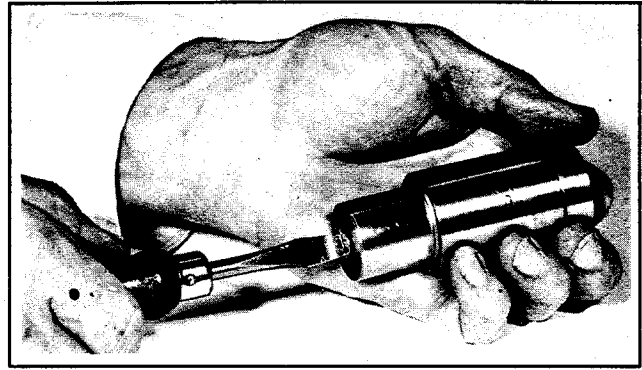

Figure 3E-70. Installing Crank Pin Pilot on Crank Pin (1963-1976)
Install crank pin pilot on opposite (circuit breaker crankshaft) end of crank pin as shown in Fig. 3E-72. Remove aligning sleeve and install connecting rod (16) and bearing assembly (17). Oil pin and bearings. Place transmission crankshaft assembly on shouldered end of press cap. Install circuit breaker crankshaft (15) over pilot. (See Fig. 3E-73.) Install aligning sleeve, grooved end down, over protruding end of pilot. Using straight edge, align both crankshaft throws. See Fig. 3E-74.